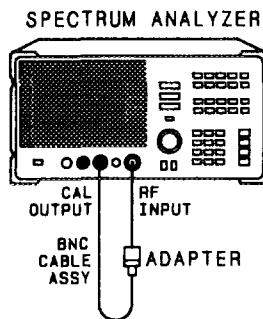

Figure 3-4. Resolution BW Switching and IF Alignment Uncertainty Test Setup
1. Connect the HP 8562A/B CAL OUTPUT to the RF INPUT 50Ω as shown in Figure 3-4.